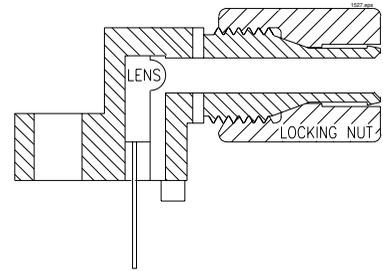

Figure 3.1 Cross-sectional view of fiber optic housing with photodetector installed.
3. **Figure 3.1** shows a cross-sectional view of a sidelooker device housing with a component inserted. The component can either be an LED or photodetector, like the ones in the kit provided with this manual. With the phototransistor in hand, look at the pictorial of the device on page 49 of the manual, and notice the raised section of the body. This dome shaped protrusion acts as a micro-lens. Note in **Figure 3.1** that the micro-lens